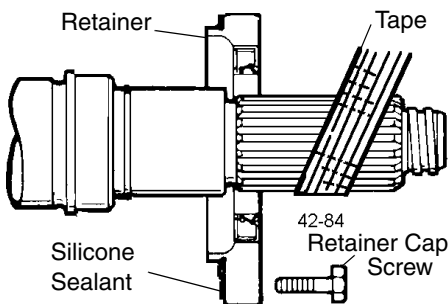
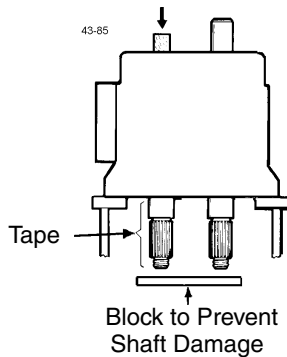

Figure 71 - Remove Bearing Retainers
Figure 73 - Press Shafts from Gear Case
NOTE: Protect the liquid end of the shafts by wrapping them with tape. See Figure 71 and Figure 73.
3. Remove the front bearing retainer screws and pull off the bearing retainers (Figure 71). If a retainer is stuck, leave it in place; it will press out when the shaft is removed.
- Place the gear case on an arbor press with the liquid end facing down. Protect the shaft ends with a wood or plastic block (Figure 73) and press the shafts out of the gear case. See Table 5, "Arbor or Hydraulic Press Required (Tons)," on page 47.